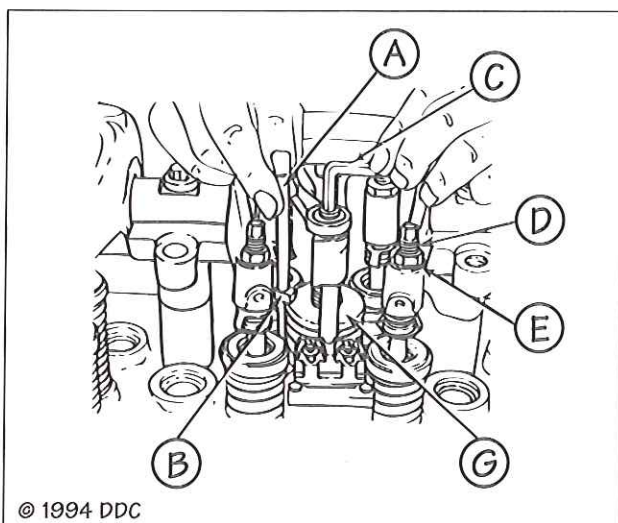

FIG. 71
12. Loosen the fuel injector rocker arm locknut (E, Fig. 71) and turn the adjusting set screw (D) until the extended part (flag) (B) of the gage will just pass over the top of the injector follower (G). An accurate "feel" should be developed. The objective will be to adjust all six injectors to the same feel.
13. Tighten the locknut to 35 lb.-ft. (47 N•m). Check the adjustment with the Height Gage (A) and, if necessary, readjust the set screw (D). Remove the Height Gage.